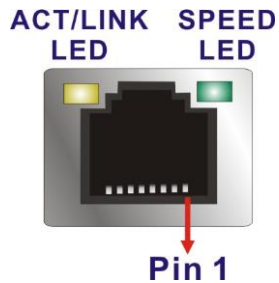

Figure 3-29: 2.5GbE LAN Connector
- CN Pinouts:** See **Table 3-25** and **Figure 3-29**